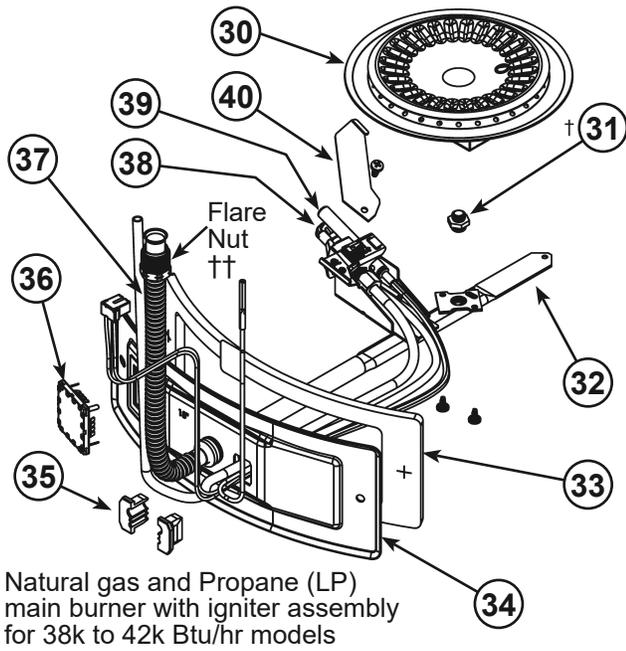

Figure 46
- 12 Manifold Door Assembly (behind outer door) (see Figure 3 & Figure 4) (see also **Figure 45 & Figure 46**)
- 15 Flexible Manifold Tube (see Figure 3 & Figure 4) (see also **Figure 45 & Figure 46**)
- 30 Sheet Metal Burner (see Figure 3 & Figure 4) (see see also **Figure 45 & Figure 46**)
- 31 Gas Orifice (see Figure 3 & Figure 4) (see also **Figure 45 & Figure 46**)
- 32 Gas Manifold (see Figure 3 & Figure 4) (see also **Figure 45 & Figure 46**)
- 33 Manifold Door Gasket (see Figure 3 & Figure 4) (see also **Figure 45 & Figure 46**)
- 34 Manifold Door (see Figure 3 & Figure 4) (see also **Figure 45 & Figure 46**)
- 35 Two Piece Grommet With Clip (see Figure 3 & Figure 4) (see also **Figure 45 & Figure 46**)
- 36 Viewport (see Figure 3 & Figure 4) (see also **Figure 45 & Figure 46**)
- 37 Flexible Manifold Tube (see Figure 3 & Figure 4) (see also **Figure 45 & Figure 46**)
- 38 Pilot (see Figure 3 & Figure 4) (see also **Figure 45 & Figure 46**)
- 39 Thermopile (see Figure 3 & Figure 4) (see also **Figure 45 & Figure 46**)
- 40 Pilot Shield (see Figure 3 & Figure 4) (see also **Figure 45 & Figure 46**)